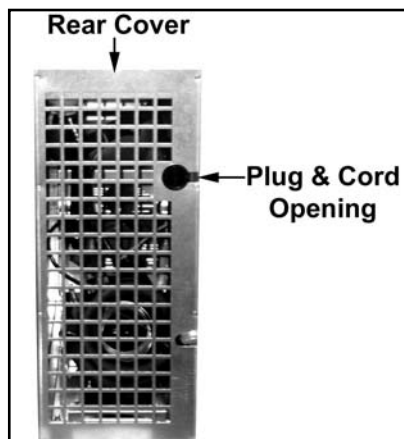

Figure 1
1. Remove the rear refrigeration cover. (See **Figure 1**)